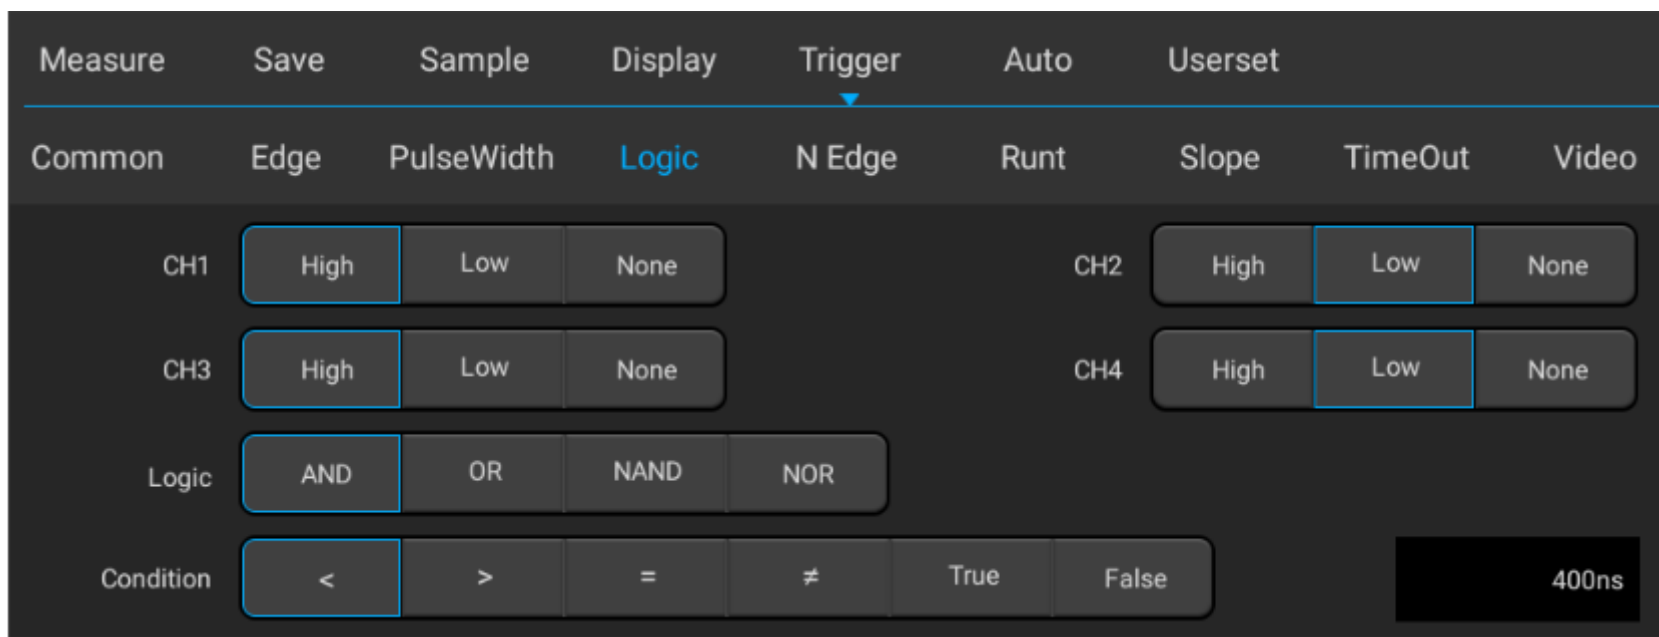

Figure 5-21 Logic Trigger Setting Menu
- 1) Tap “Trigger” on the main menu to open the trigger menu, select logic trigger in the trigger type, and set the logic trigger as follows, as shown in Figure 5-21: